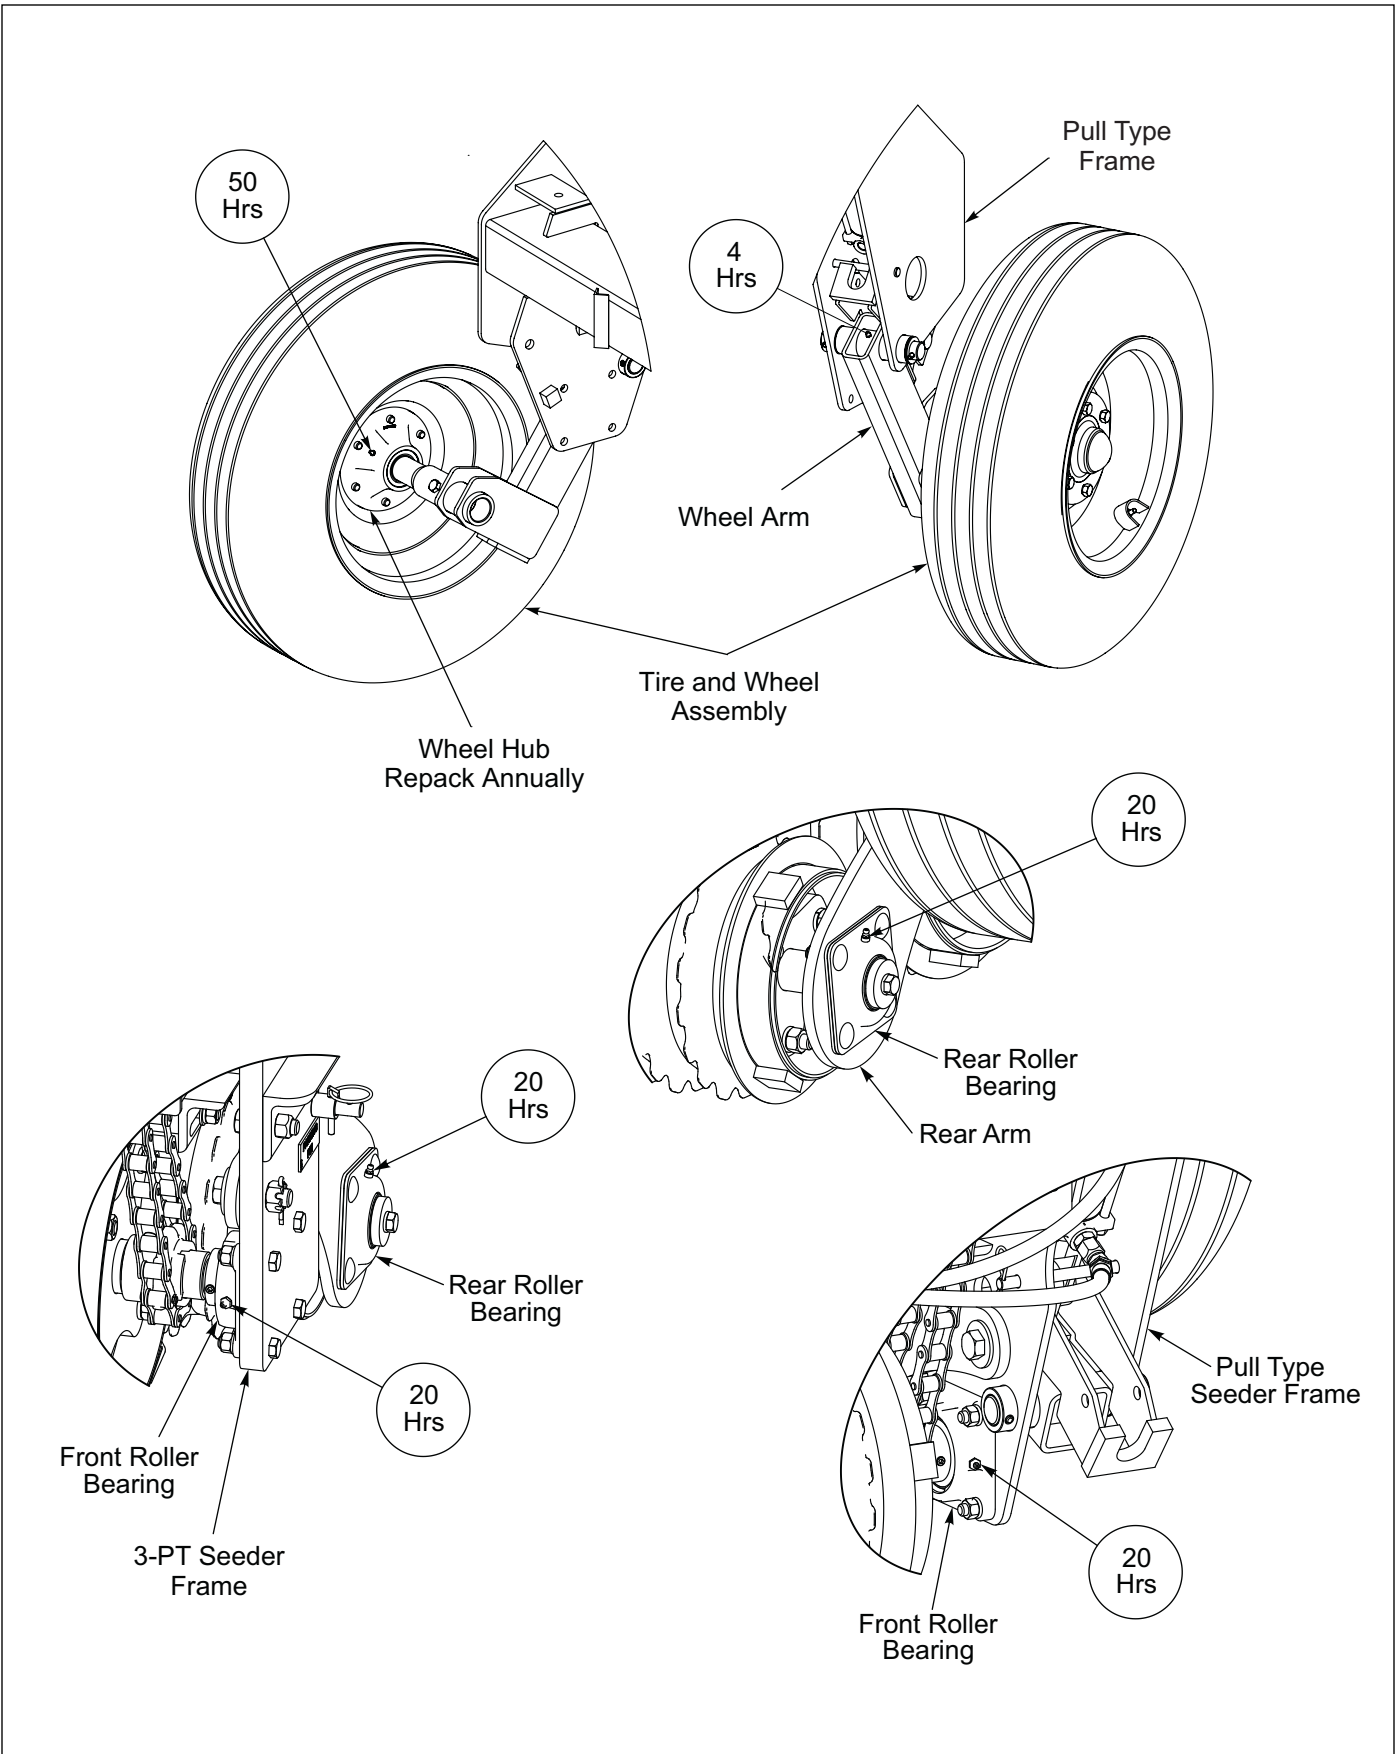

Figure 4-2: Lube Points
12. Grease Wheels Hubs every 50 hrs. **See Figure 4-2.**
- All Seeders have Greaseable Bearings on the ends of the Front and Rear Rollers and should be greased every 20 hrs. **See Figure 4-2.**